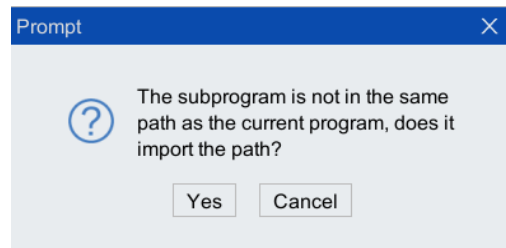

Figure 5-61 "Are you sure to Import Path" dialog box
Step5.If the subprogram (senddata) to be inserted is not in the same path as the main program, "The subprogram is not in the same path as the current program. Does it import the path?" dialog box will pop up, as shown in Figure 5-61. Click <Yes> button, and then the subprogram will be inserted into the main program along with its path, as shown in Figure 5-62.